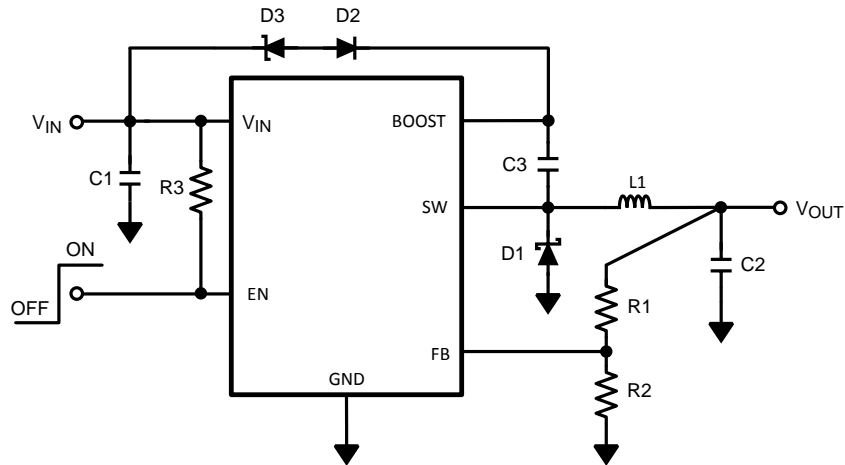

**Figure 26. LMR12007X (1.6MHz)**
**Table 3. Bill of Materials for Figure 26**